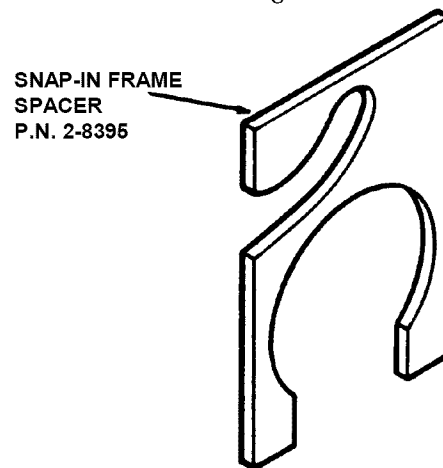

FIGURE 4.3
7. Install required number of snap-in frame spacers behind channel pivot until the 1-1/4" distance between belt is maintained. See Figure 4.3.